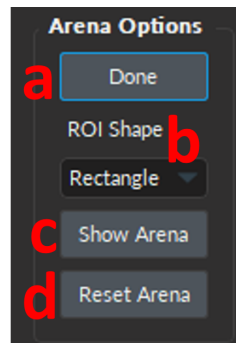

Figure 15.8: Animal Tracking window, Arena Options
- a) The **Draw Arena** button (Fig. 15.8, a), when selected, allows the users to draw a shape on a still frame of the video to define the part of the image that corresponds to the animal arena. This selected element will serve as the background for the moving animal. Once selected, the **Draw Arena** button becomes a **Done** button, which must be selected to save the current arena area for the algorithm.
- b) The **ROI shape** drop-down menu (Fig. 15.8, b) sets the geometrical shape that will be used when drawing the arena area. The user can select between: *Freehand*, *Rectangle*, *Circle* or *Square*.
- c) The **Show Arena** button (Fig. 15.8, c) will blackout the part of the video that isn't contained within the user-defined arena.
- d) The **Reset Arena** button (Fig. 15.8, d) will remove the video blackout that designates the arena in order to redraw the shape.